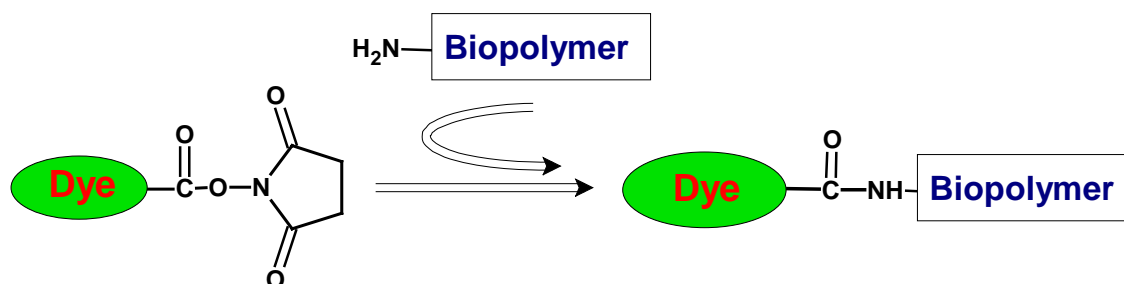

Figure 1. The succinimidyl ester group of fluorophore reacts with amine groups on the protein to form a stable carboxamide bond.
The AnaTag™ HiLyte Fluor™ 488 Protein Labeling Kit provides a convenient way to label proteins by using the succinimidyl ester (SE) reactive form of HiLyte Fluor™488. The succinimidyl ester shows good reactivity and selectivity with aliphatic amines of the protein and forms a carboxamide bond, which is identical to, and is as stable as the natural peptide bond (Figure 1). HiLyte Fluor™488-protein conjugates can sustain treatments during immunofluorescent staining, fluorescence *in situ* hybridization, flow cytometry and other biological applications without hydrolysis.